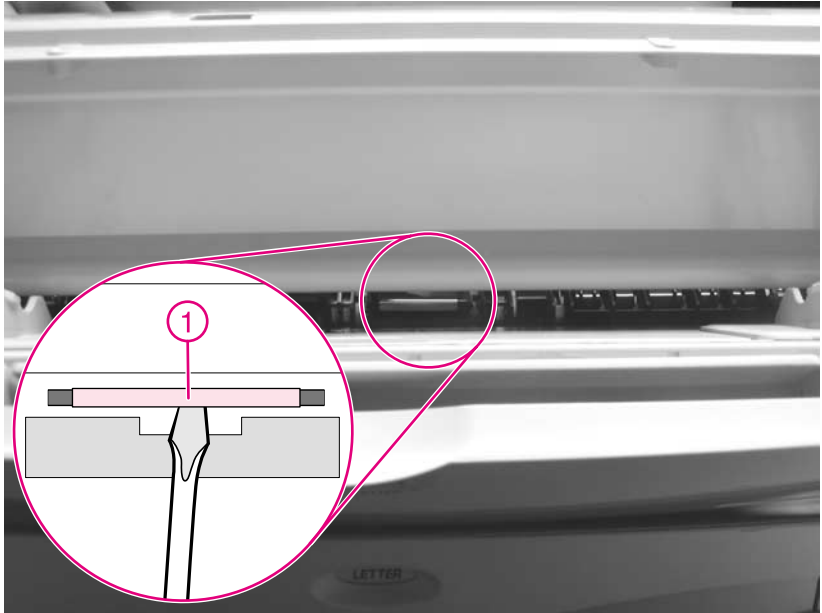
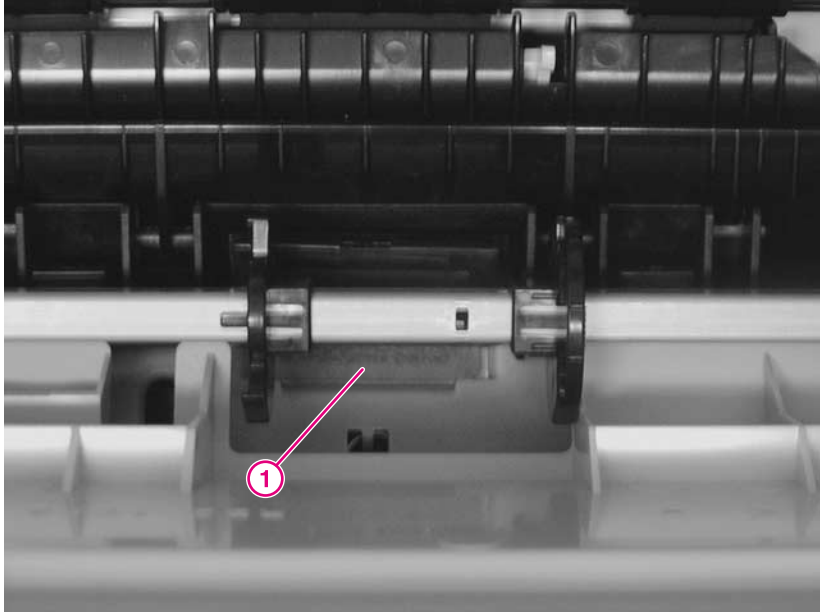

Figure 7 Detaching the Tray 1 separation pad (front of the printer)
Figure 8
- 2 Locate the Tray 1 separation pad using Figure 7 (item 1) and Figure 8 (item 1).
- 3 With one hand, use a small, flat-blade screwdriver to pry the Tray 1 separation pad (Figure 7, item 1) from the holder.
- 4 With the other hand inside the printer, remove the separation pad (Figure 8, item 1).